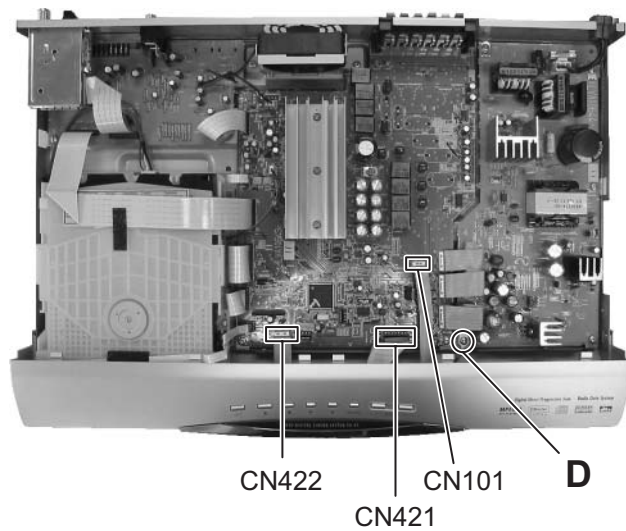

Fig.5
- (2) Remove the screw **D** attaching the wire to power supply board. (See Fig.5)